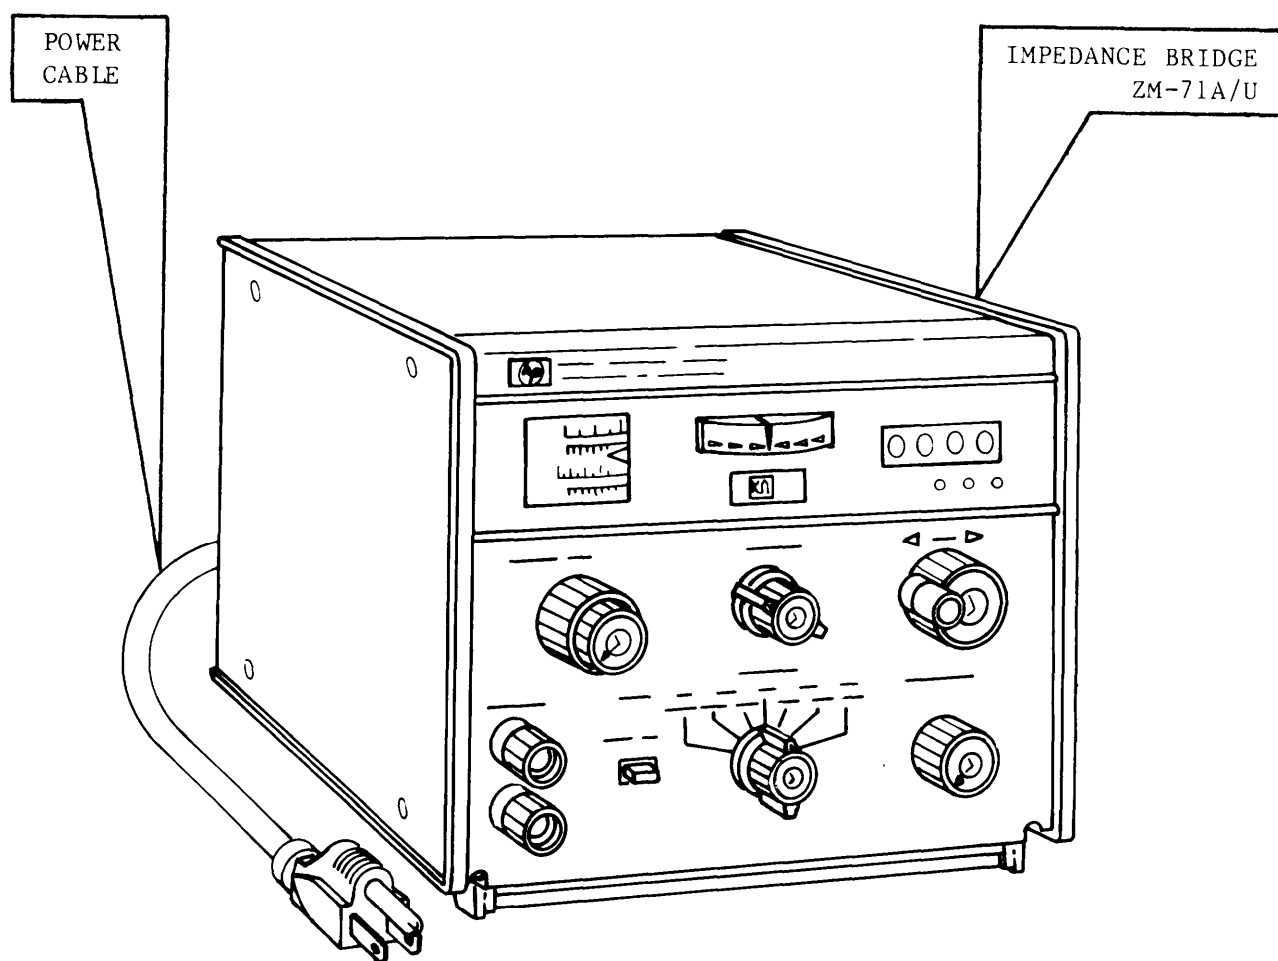

Figure 1-1. Impedance Bridge ZM-71A/U, front view.
This manual describes Impedance Bridge ZM-71A/U ( fig. 1-1) and provides operation and maintenance instructions. The ZM-71A/U is designed to make fast, easy measurements of resistance (R), capacitance (C), inductance (L), capacitor dissipation factor (D), or inductance quality factor (Q).